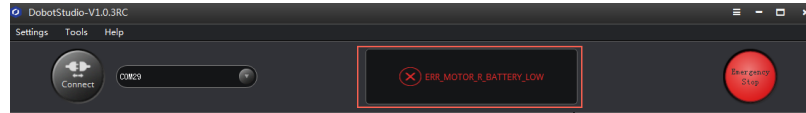

Figure 6.1 Alarm tips
Step 1 Double-click the alarm tip on the M1Studio page, as shown in Figure 6.1.